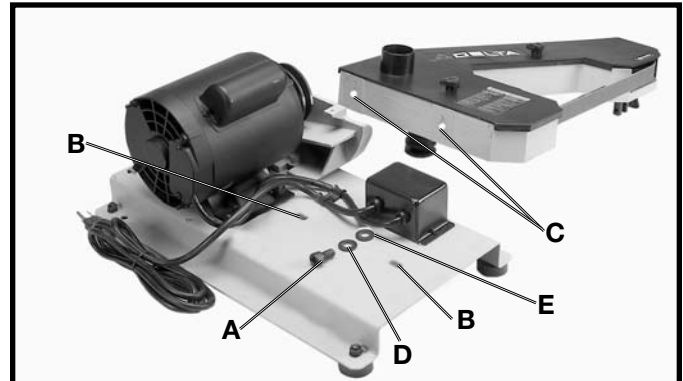
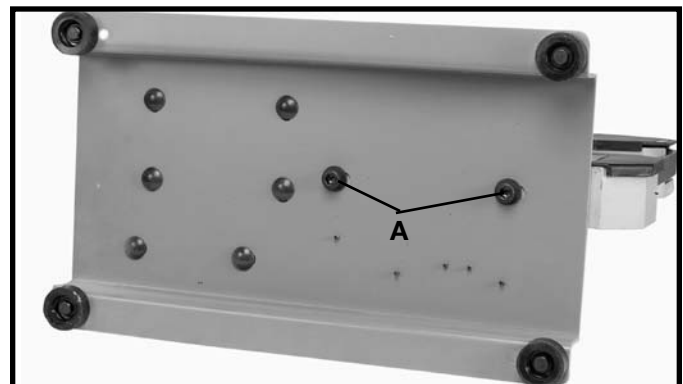

Fig. 1
Fig. 2
1. Place a 10mm lockwasher (D) Fig. 1, and a 10mm flat washer (E) onto a M10x20mm hex socket head screw (A) and insert the screw up through the hole (B) in the base. Thread the screw into the tapped hole (C) in the bottom of the belt unit, repeat this process for the remaining hole. Do not completely tighten the two screws (A) Fig. 2 at this time.
2. Fig. 2, illustrates the two screws (A), inserted into the two holes in the bottom of the base.
4. Then tighten the two M10X20mm hex socket head screws (A) Fig. 2, that fasten the belt unit to the base.